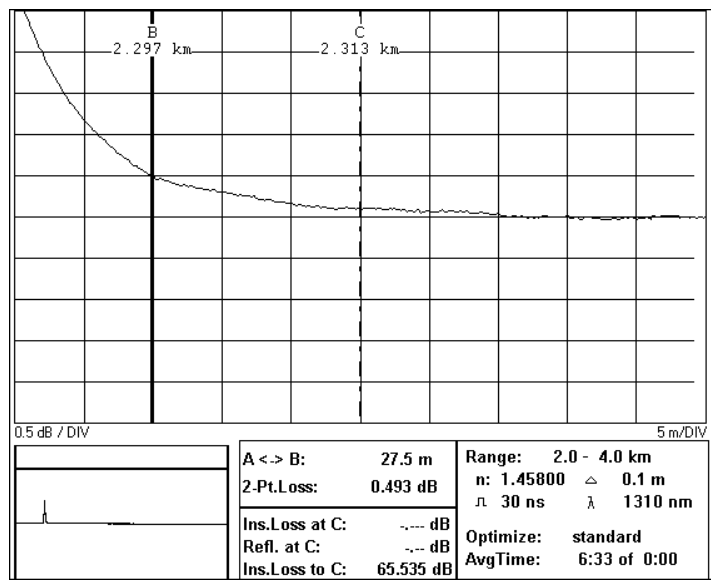

Figure D-8 Attenuation Deadzone Test: Position Marker B at End of Reflection
- 19 Position marker B on the end of the reflection. See Figure D-8.